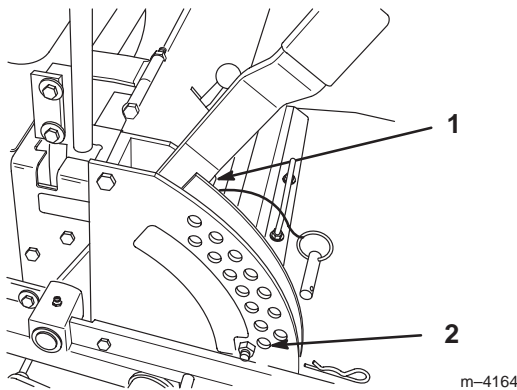

Figure 49
2. Check tire pressure of all four (4) tires. If needed, adjust to 13 psi (90 kPa)
4. Raise the deck to the transport position and take all force off of the two large deck lift springs by loosening nut in front of each spring (Fig. 49).
5. Place two 2" (51 mm) thick blocks under rear left and right lower edge of mower. Place one 2-1/4" (57 mm) block under front center lower edge of mower. Lower mower to the 2" (51 mm) height-of-cut position (Fig. 49).
1. Raise deck lift lever to the transport position, (Fig. 49).